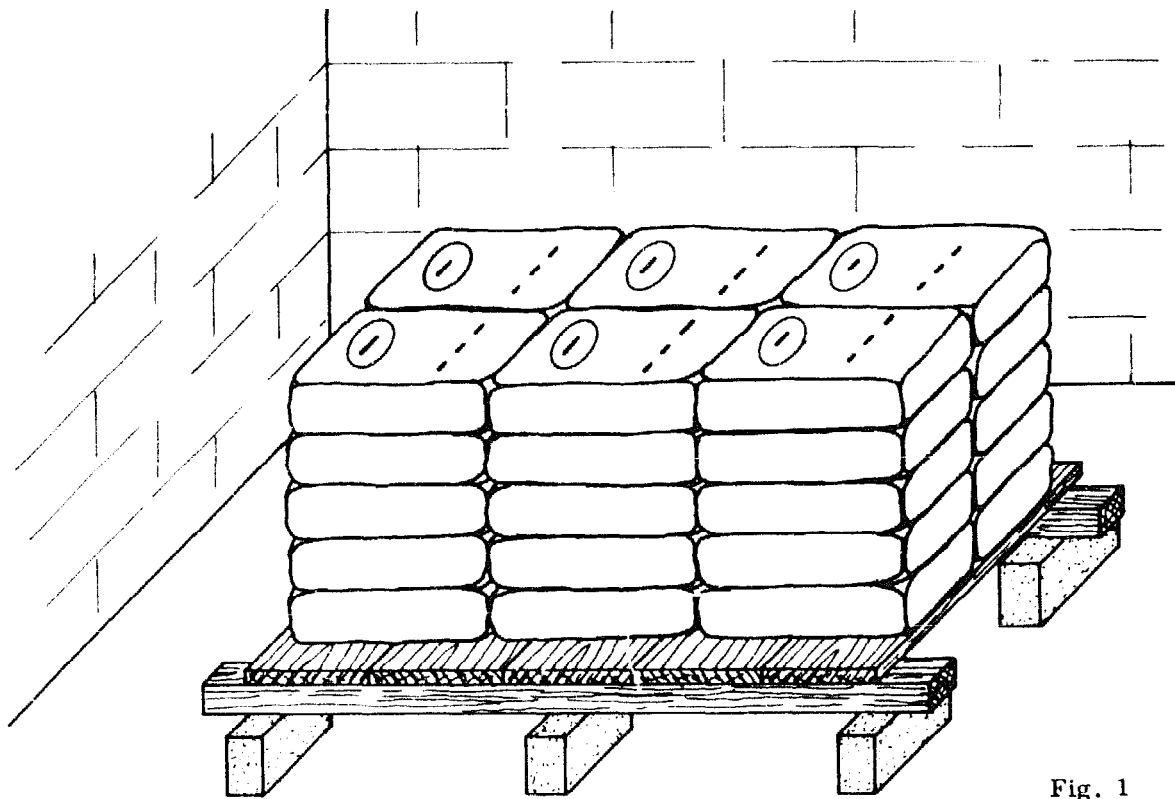

Fig. 1
The modern era of building cements began about 1760, when an English engineer discovered the most suitable composition for hydraulic cements. These are cements which will harden even under water (Fig. 1). A few years later, in 1824, another Englishman invented Portland cement. He named it because of its similarity in appearance to a natural stone from Portland in England.
- **STORING IN A SHED:** Make sure that the shed or room is water-tight and has a sound, dry floor. If the floor is not dry, make a platform out of boards set on blocks and timber, to raise the bags off the ground (Fig. 1). Stack the bags closely together to keep out air, and away from the walls so that they are not in contact with any dampness on the walls. In very large sheds it is better to cover the bags with plastic sheeting to keep out damp air, especially during the rainy season.